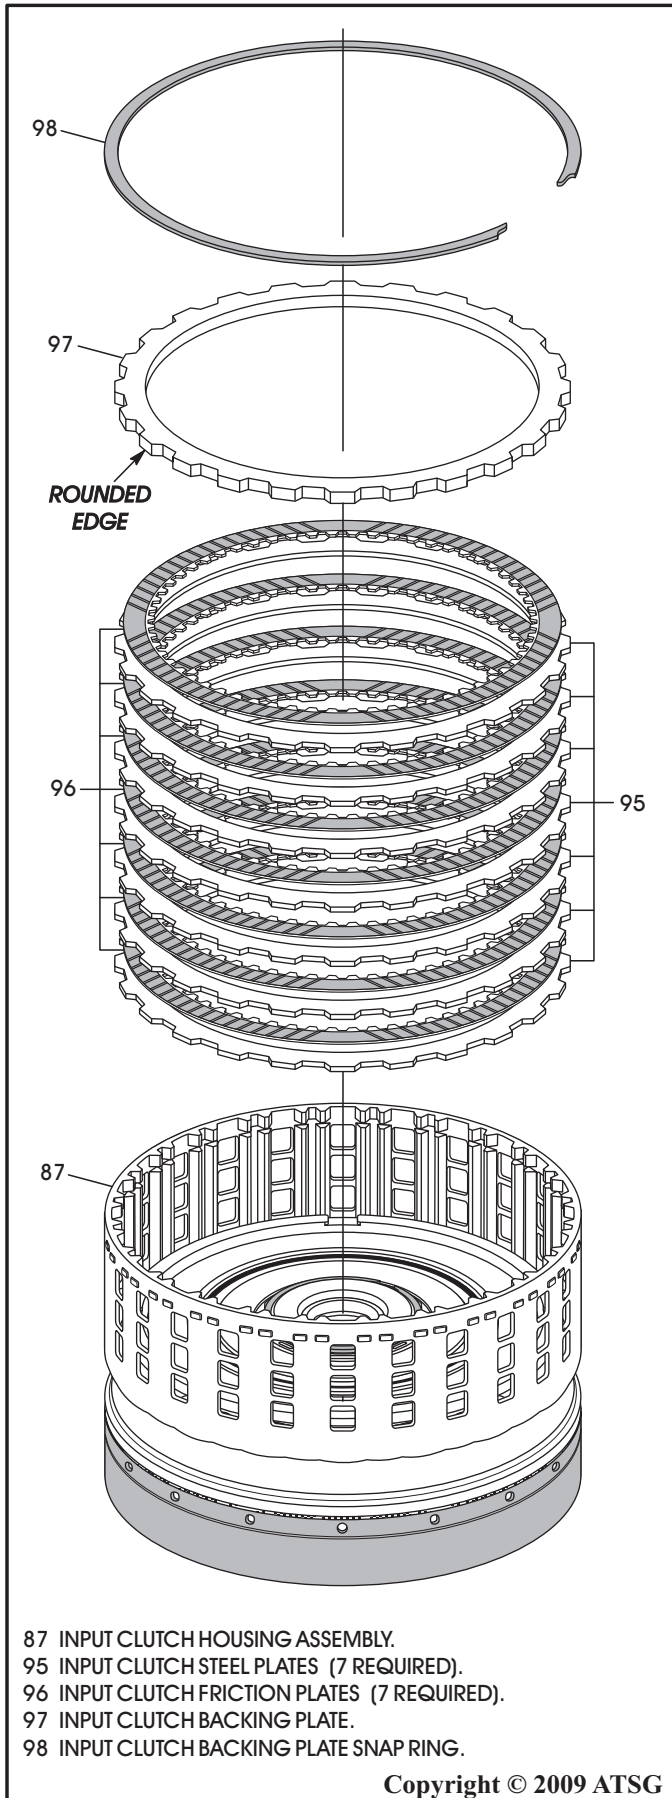

Figure 100
10. Install the input clutches beginning with a steel plate and alternating with a friction plate until you have installed seven of each, as shown in Figure 100.
11. Install the input clutch backing plate with the rounded edge facing friction plate, as shown in Figure 100.
12. Install the input clutch backing plate snap ring, as shown in Figure 100.